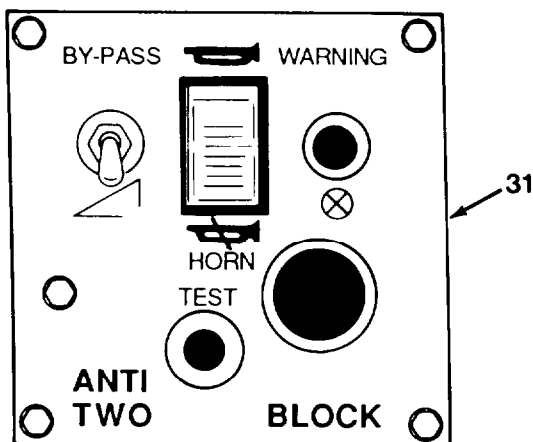

Figure 4-12. *Anti-two Block Panel*
31. **Anti-Two Block Panel** is equipped with an audio/visual anti-two block warning system designed to alert operator of impending two-block conditions (i.e., the hook or hook block is being drawn into boom point sheaves). The vehicle is equipped with a shut-off disconnect system on the control linkage. It is activated when the hook block contacts the anti-two block counterweight: winch hoisting will cease, and boom will not extend or lower; raising and retracting boom and winch down functions will remain active. Appropriate counteraction should be taken to prevent two-blocking (Figure 4-12).